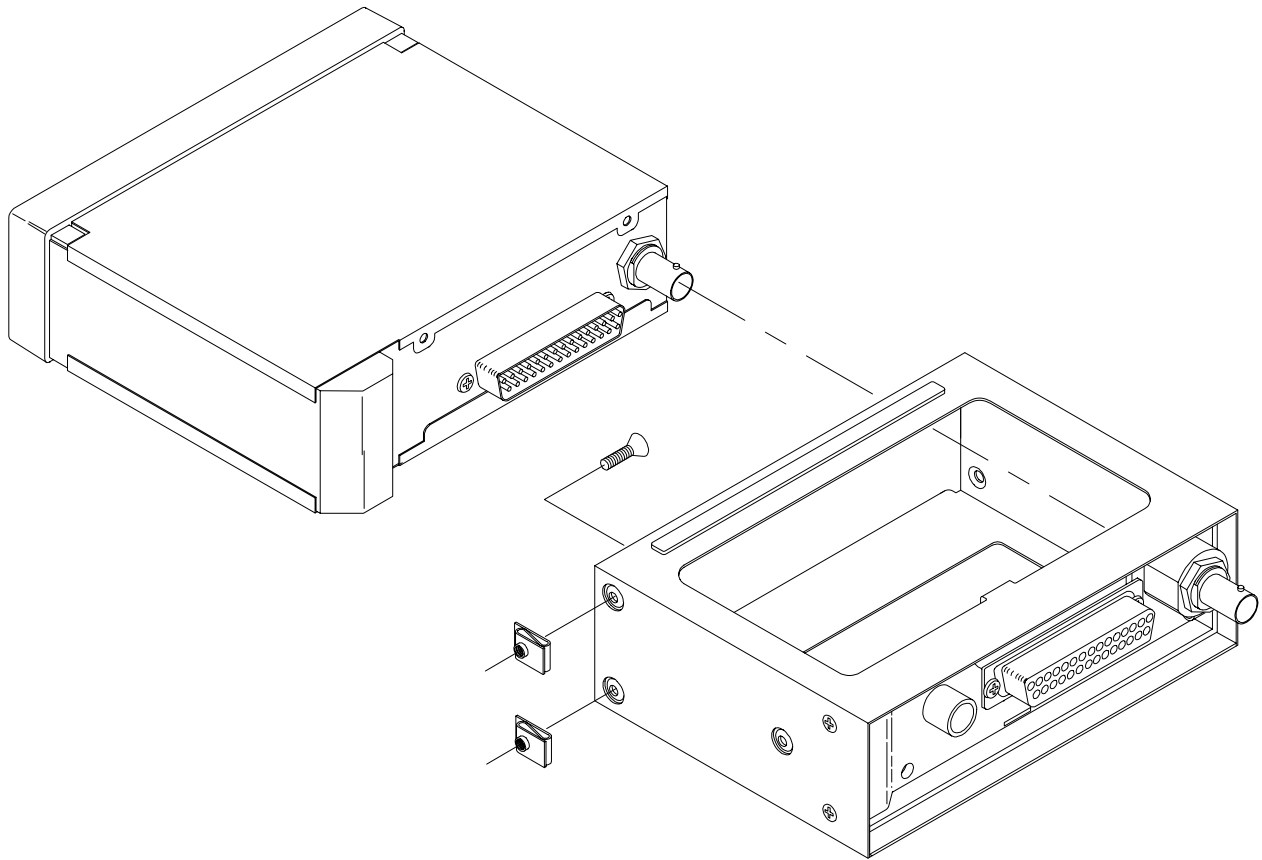

FIGURE 3-5 AVIATION RACK INSTALLATION
- B. Install the rack in the aircraft panel using four #6-32 countersunk screws and four self-locking nuts. The screws are inserted from the inside through the holes in the sides of the rack (see Figure 3-5).